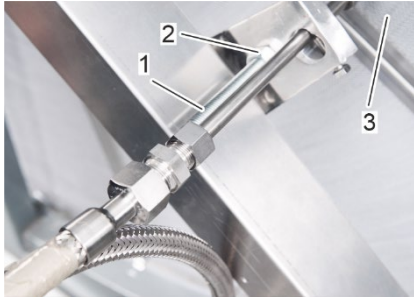
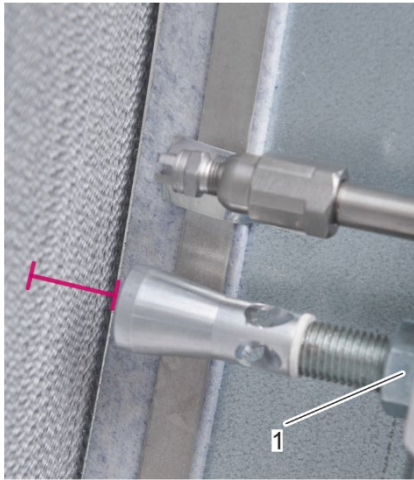

Fig. 44: Adjust the distance of the compressed air nozzle to the rotor surface
Fig. 45: Rotor-side locknut on the compressed air nozzle
9. If the distance is less or more than 2.5 cm, loosen the supply-side locknuts (Fig. 44/2) and the rotor-side locknut (Fig. 45/1) and adjust the compressed air nozzle (Fig. 44/1) by moving it away or onto the rotor surface (Fig. 44/3) to a distance of 2.5 cm from the rotor surface (Fig. 44/3). Tighten the supply-side locknuts (Fig. 44/2) and the rotor-side locknut (Fig. 45/1).